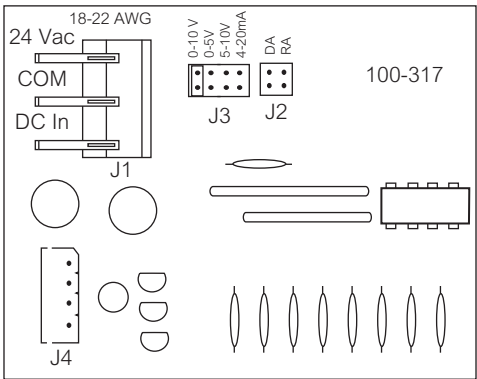
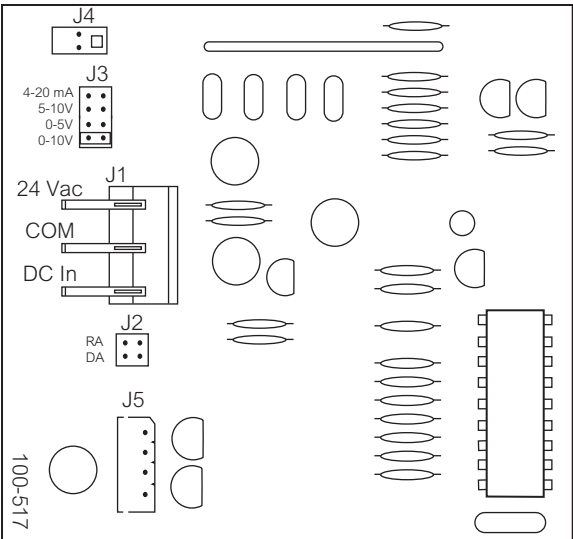

Figure-4 Typical Wiring of Three-Wire Proportional Non-Spring Return Valves.
Figure-5 Typical Wiring of Three-Wire Proportional Spring Return Valves.
1. Remove the cover from the actuator, then connect the power and control wiring to the terminal block ( Figure-4 and Figure-5).
**Note:** All units are shipped with the actuator in the direct-acting, 0 to 10 Vdc mode, which means that the valve opens the B port upon receiving an increasing Vdc control signal. To change the action to reverse-action (valve closes with an increase in control signal), simply remove the action jumper J2 and relocate it to the reverse-acting pins. See Figure-4 and Figure-5.